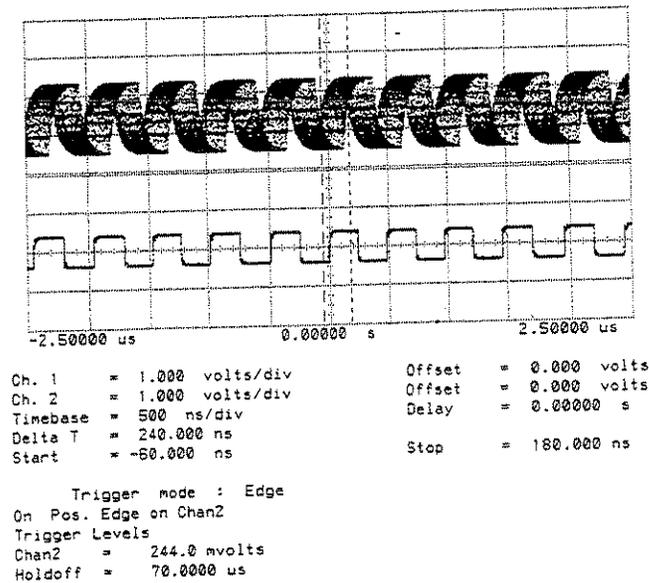

Figure 8-19 0.5UI p-p Jitter
16. Increase the Signal Source output level until the jitter on the Channel A waveform is at least one division wide (0.5 UI p-p) as shown in Figure 8-19. Ensure that the Signal Source waveform amplitude does not exceed 1.5V p-p.
31. Now set the frequency to 100 kHz and check that the observed jitter is > 0.5 UI p-p, see Figure 8-19.